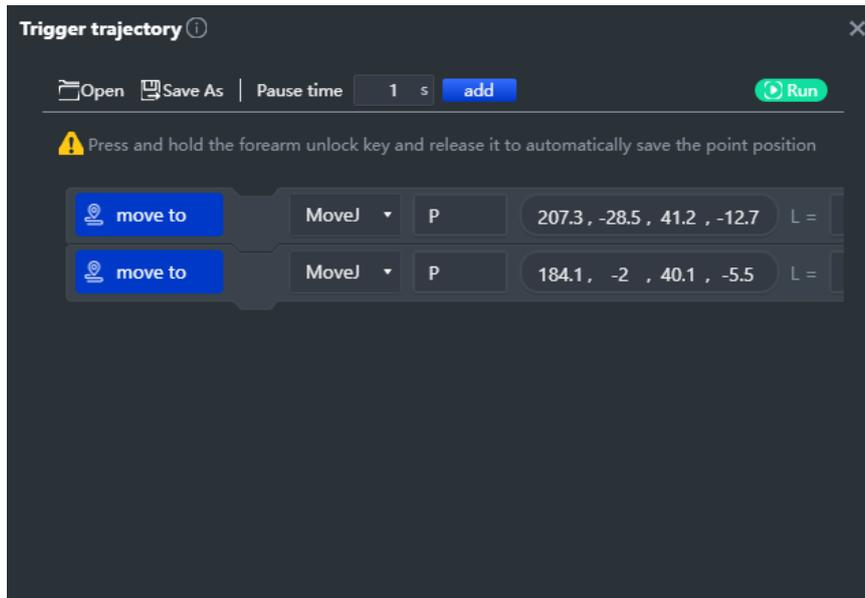

Figure 5.61 Trigger line page
2. Click **Trigger trajectory** to enter the “Trigger Trajectory” page for setting ink dipping actions, as shown in Figure 5.61.